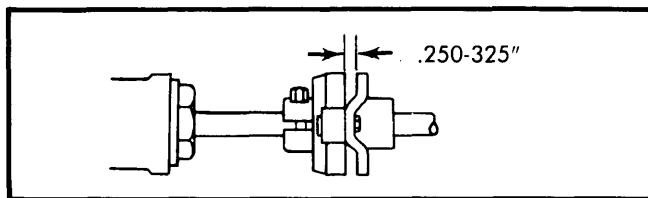

Fig. 3 Adjusting Flexible Coupling for All General Motors Models
4) Check that flexible coupling-to-steering shaft flange dimension is .250-.325". See Fig. 3. If flexible coupling alignment pin